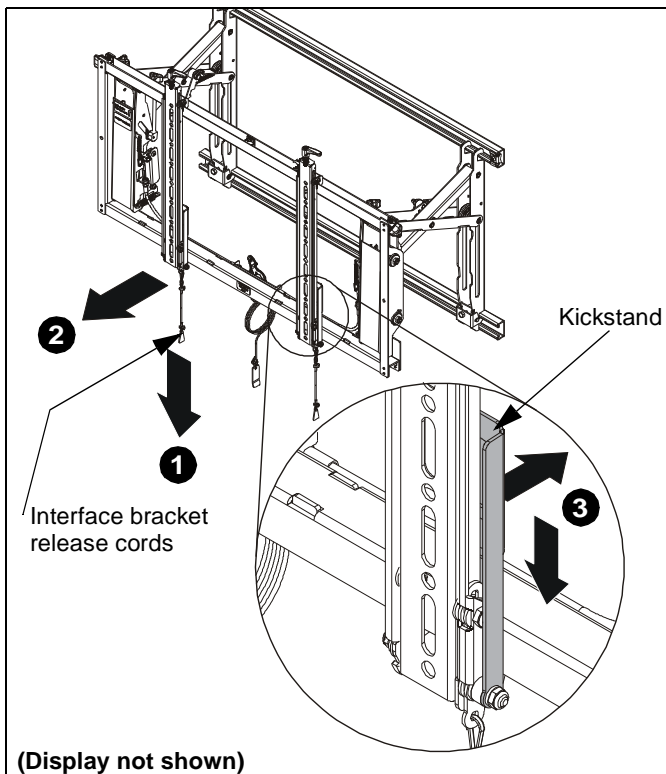

Figure 22
1. Pull down on interface bracket release cords. (See Figure 22)